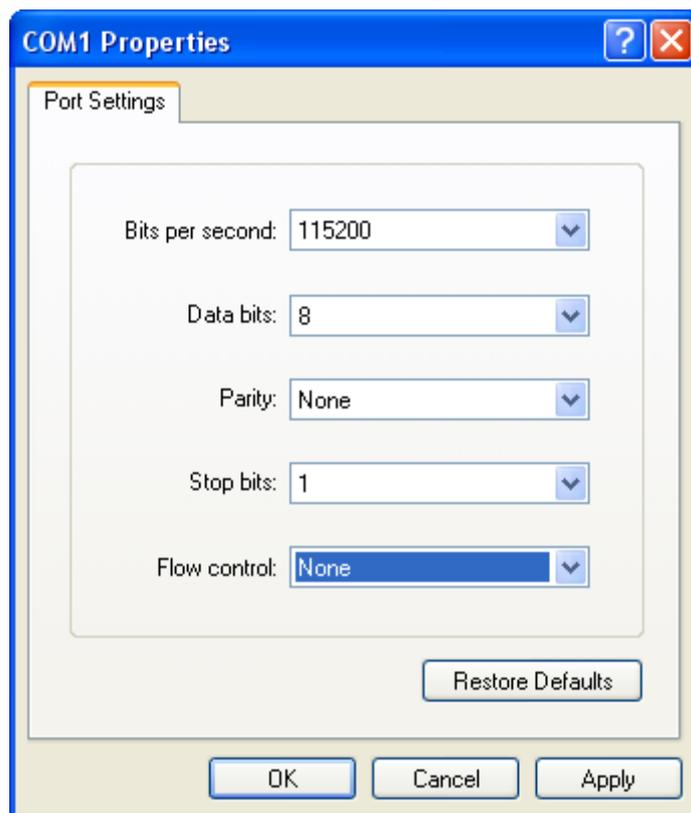

Fig. 3.3 Serial ports parameter setup
**Step 3**”: to select the communication port. Select “com1” communication port in Fig3.2, press “OK”, the dialogue box as Fig. 3.3 will appear.